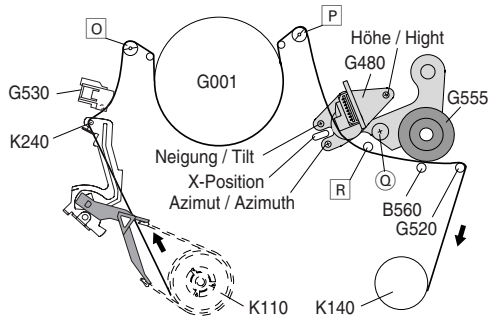

Fig. 21
- Re-adjust the reverse rollers \square / \square (Fig. 21) if necessary so that the tape does not curl when running over them.
- Adjust the tilt of the combi head (G480) using the "Tilt" screw (Fig. 21) so that the tape just touches the lower edge of the tape guide \square (Fig. 21 / 22). The lower edge of the tape must not curl.
- Using the height adjustment screw ("Height", Fig. 21), adjust for maximum output voltage.
- Using the azimuth adjustment screw ("Azimuth", Fig. 21), adjust for maximum output voltage.
- Undo the screw \odot (Fig. 21).
- Re-tighten the screw \odot (Fig. 21).
- Adjust the reverse rollers \square / \square (Fig. 21) so that the FM envelopes keep the amplitude limit value $b/a \geq 0.63$ (Fig. 23) at the tape take-up side and the tape supply side.
- Adjust the reverse rollers \square / \square (Fig. 21) so that the amplitude of the FM envelopes is as flat as possible.
turn the left reverse roller \square (Fig. 21) clockwise.
turn the right reverse roller \square (Fig. 21) clockwise.
turn the left reverse roller \square (Fig. 21) counter-clockwise.
turn the right reverse roller \square (Fig. 21) counter-clockwise.
- Press the "Reverse picture search" button then after 15 seconds the "Play" button. After further 3 seconds the amplitude of the FM envelopes must have reached its maximum and must be flat. If necessary re-adjust the reverse rollers \square / \square (Fig. 21).